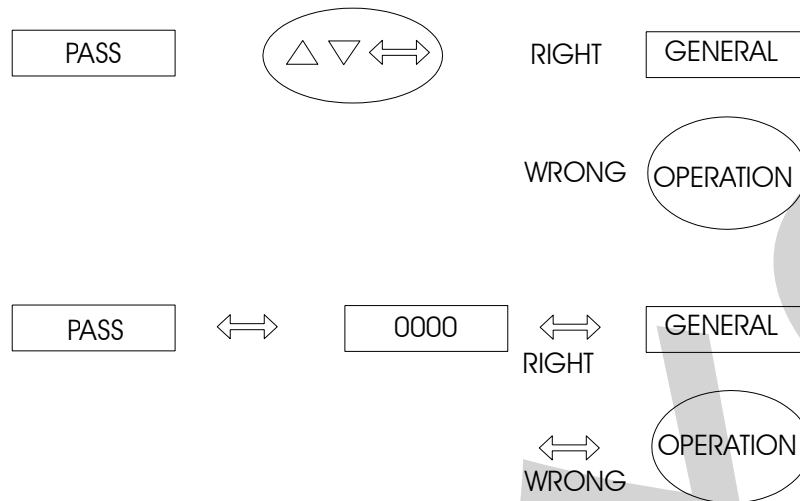

Fig. 10 - Password system by key and by value
- ii) The Module display shows the PASSWORD warning, indicating that the instrument has a password system by key or by value, as illustrated in figure 10.
In case of password by value, the user should press the ENTER key a second time to obtain the number 0000, with the last digit blinking on the right. The blinking digit indicates the position where the digit of a 4-digit number will be entered by the user. In order to move to the next digits on the left, the user should press the ENTER key. After entering all digits, the user can press the ENTER key once more to switch to level 1 in case the password is correct, otherwise the system reverts to normal operation (see figure 10).